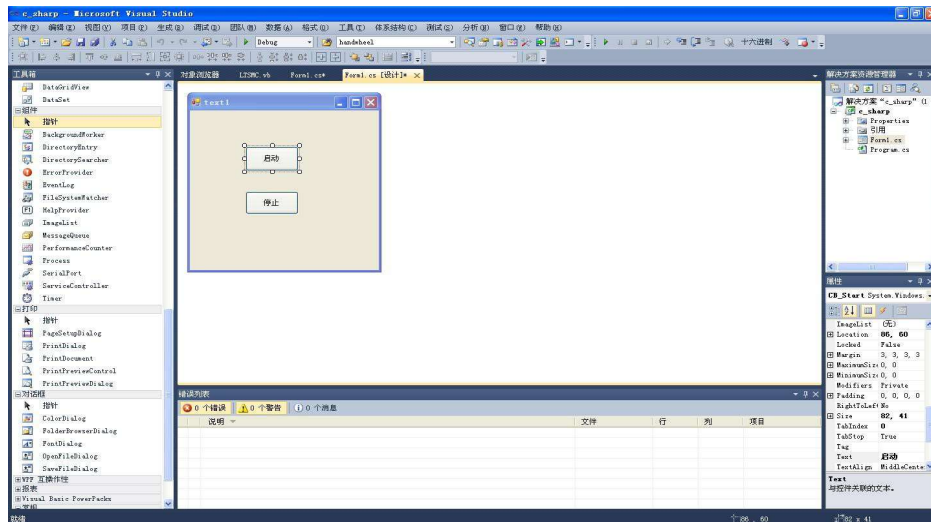

Fig. 1.10 Program editing interface
- 2) Open C#2020, create a project of “windows window application program”, add “Start” and “Stop” button on the dialogue box and modify them into “CB_Start” and “CB_Stop” respectively, as shown in Fig. 1.10.